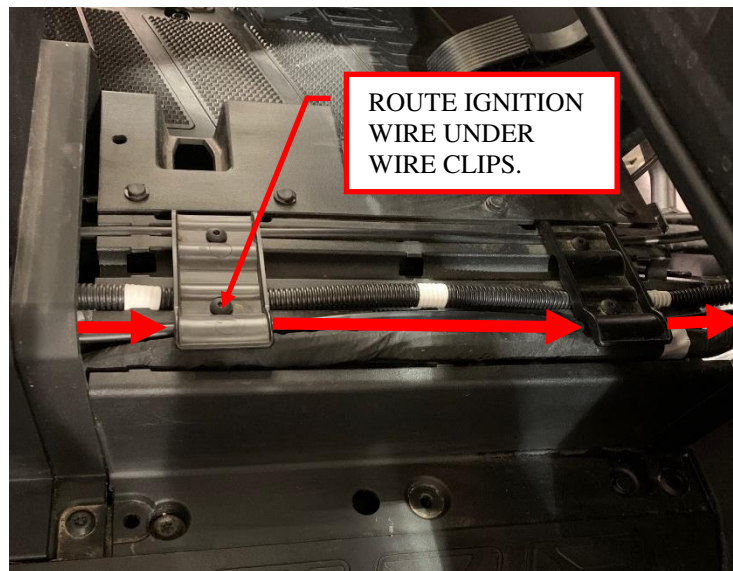
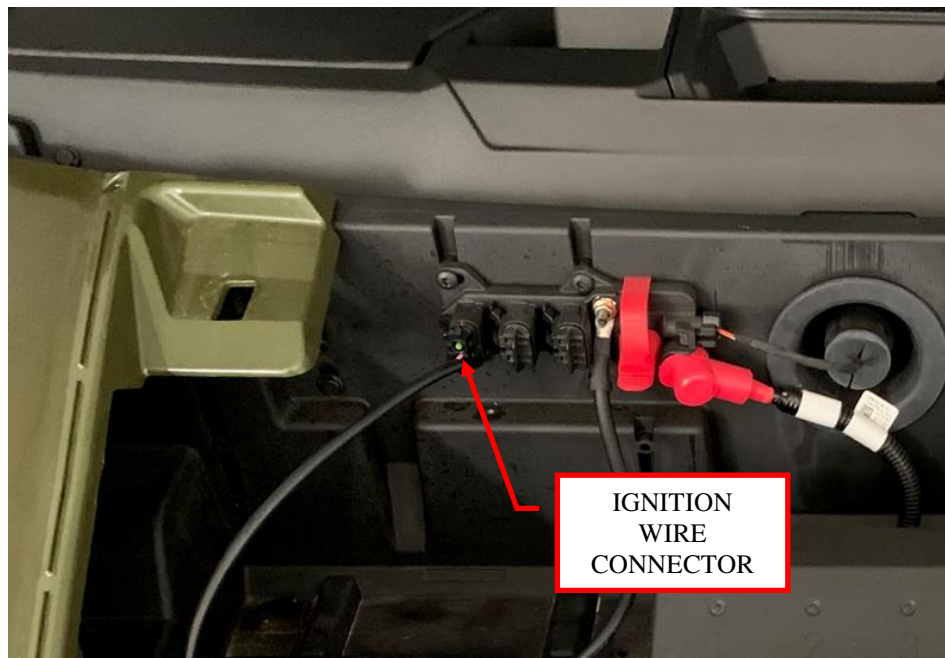

Figure 10: Wire access tunnel removed.
Figure 12: Connect to the ACC terminal.
11. Remove the floor board wire access tunnel cover. The cover is held in place with 6 plastic rivets. Pry the inside circle of the plastic rivet up to release it. See Figure 10.
frame inside the wheel well. Finally tuck the wires into the area under the hood. See Figure 10, Figure 11, and Figure 12.
13. There are a series of plugs on the firewall under the hood that Polaris has provided for accessories. Remove one of the dummy connectors from the firewall. Plug the connector from the ignition wire into one of the three plugs on the firewall (they are all the same). See Figure 12.